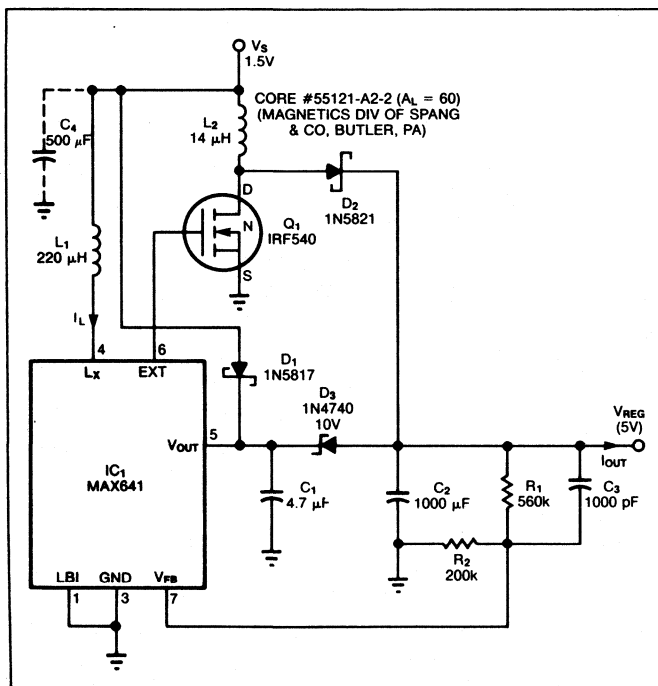
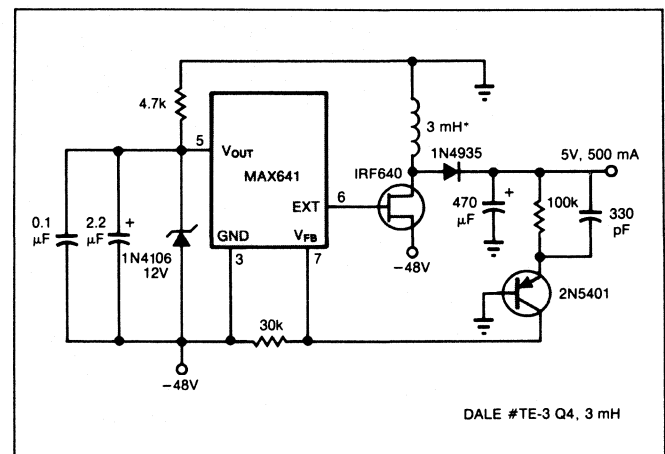

Fig 1—This switching-regulator circuit converts a dc input (as low as 1.5V) to a higher regulated value—to 5V, for example.
**Fig 5**—Only the power MOSFET, catch diode, and output-filter capacitor need to withstand high voltages in this 50V supply circuit.
You can produce a regulated 5V output from a 1.5V battery cell by using the step-up dc/dc-converter circuit shown in Fig 1. The circuit can operate with  $V_S$  as low as 1V, but it requires at least 1.5V to start. The output can deliver 100 mA when  $V_S$  is 1.5V or 1.7A at 70% minimum efficiency when  $V_S$  is 3V.
Supply voltage for the switching regulator IC1 appears first at pin 4 (start-up mode) and then at its own  $V_{OUT}$  terminal, pin 5. The chip includes an oscillator, bandgap reference, three voltage comparators, a catch diode, and associated control circuitry. An internal MOSFET lets you implement low-power applications; higher power calls for an external device: Q1 in Fig 1. The on-chip oscillator provides a 55-kHz square-wave drive to both the internal and external MOSFET.
The circuits shown in Figs 1 through 7 are all
**Fig 1—You can tailor this  $\pm 12V$  supply to provide either independently regulated outputs (a) or a tracking negative output (b). The inductors don't exact too great a size penalty: Each measures only 0.6 in. long by 0.26 in. in diameter.**
Often, a digital system powered by a 5V supply includes a few analog functions that require  $\pm 12V$ . The circuit shown in Fig 1 uses two dedicated 8-pin converters—the MAX632 and MAX636—to derive 25 mA at 12V and 15 mA at  $-12V$  from a 5V logic supply. You can configure the circuit for independently regulated outputs (Fig 1a) or for tracking regulation (b).
If your application requires higher power than Fig 1's circuit provides (if, for instance, you need the power for a data-acquisition board or a high-level industrial controller), then you can modify the circuit by adding an
Fig 2—With the addition of a few external components (a), the circuit of Fig 1 can supply currents of 100 mA at 12V and 60 mA at  $-12V$ . Traces A, B, and C (b) represent the switch voltage, inductor current, and output ripple for the 12V supply.
The simple boost converters of the previous examples are inadequate for some battery-powered applications. For example, the unregulated output of a 12V sealed lead-acid battery varies from worst-case peaks of 15V down to as little as 8V when it is deeply discharged. Therefore, you can't derive a regulated 12V output from a 12V lead-acid battery by using a simple boost converter, such as one of those illustrated in Figs 1 and 2, because a boost converter can't accept an input voltage that is greater than its output voltage. Conversely, a buck converter can't accept an input voltage that's less than its output; therefore, a simple buck converter won't work either. A buck/boost converter, as the name implies, is a combination of buck and boost circuitry that successfully addresses the challenge of
If you need to generate voltages higher than the 5 and 12V levels of the circuits shown in Figs 1 through 4, consider a configuration such as the one shown in Fig 5. It provides a 50V output from a 12V input and is simpler than Fig 4's circuit: Because the output is higher than the input, a simple boost configuration suffices.